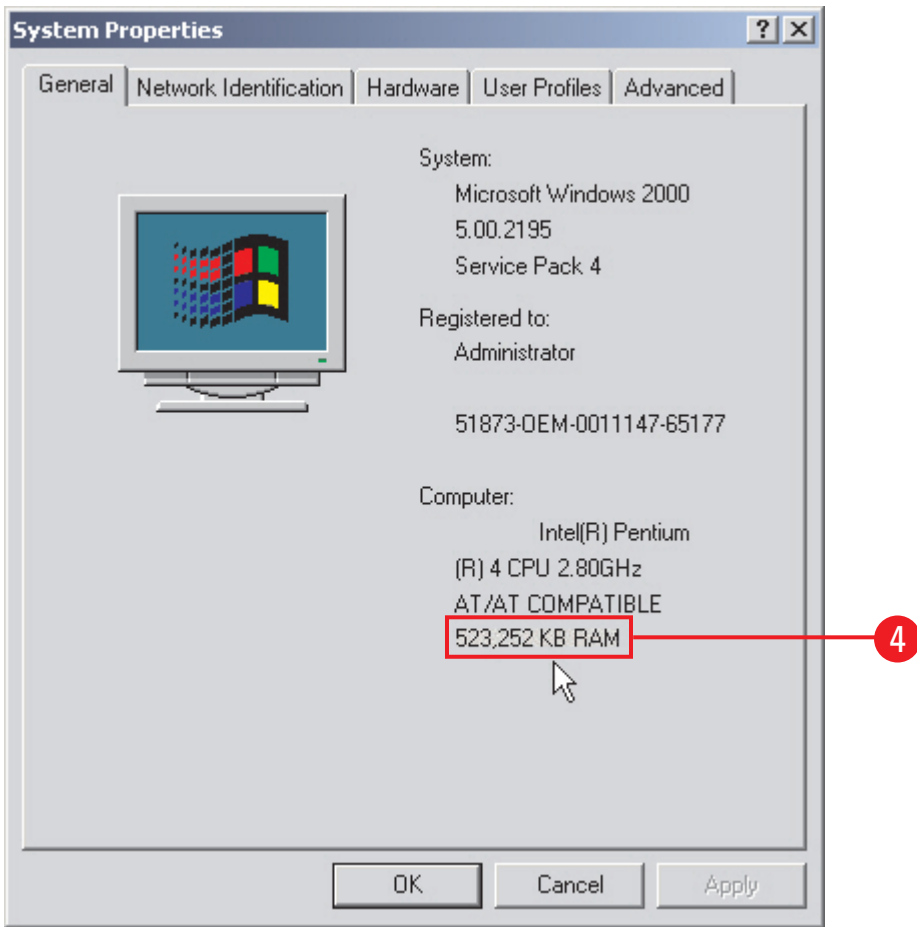

Figure 15. System Properties Dialog Box
4. Verify that the amount of RAM is now 512 MB. Refer to Figure 15.